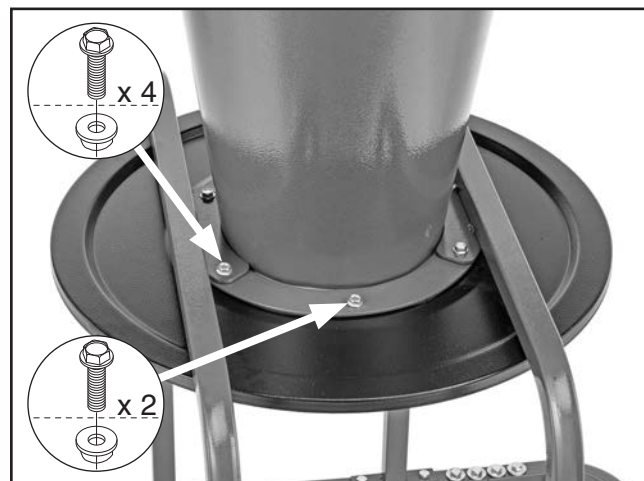

Figure 11. Funnel and drum lid attached to funnel brackets.
13. Attach cyclone funnel and drum lid to funnel brackets (see **Figure 11**) with (4) $\frac{1}{4}$ "-20 x $\frac{3}{4}$ " flange bolts, (2) $\frac{1}{4}$ "-20 x $\frac{1}{2}$ " flange bolts, and (6) $\frac{1}{4}$ "-20 flange nuts.